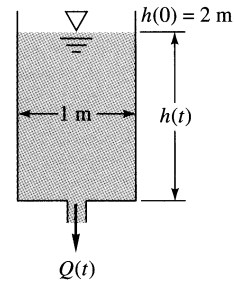

Fig. P6.145
6.145 The 1-m-diameter tank in Fig. P6.145 is initially filled with gasoline at 20°C. There is a 2-cm-diameter orifice in the bottom. If the orifice is suddenly opened, estimate the time for the fluid level $h(t)$ to drop from 2.0 to 1.6 meters.